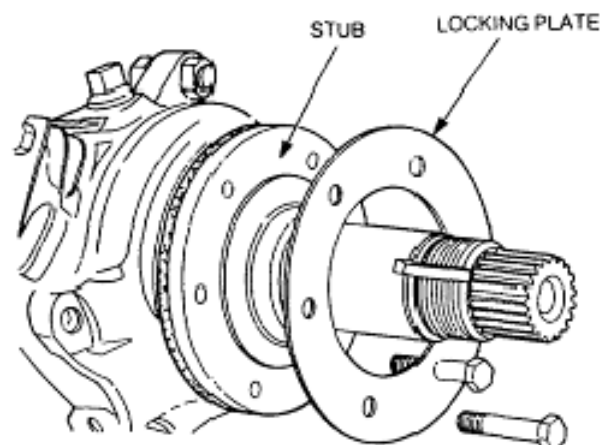

Figure 104 Stub Axle Removal
- b. Remove the six bolts and locking plate retaining the hub stub axle to the swivel housing (Figure 104).